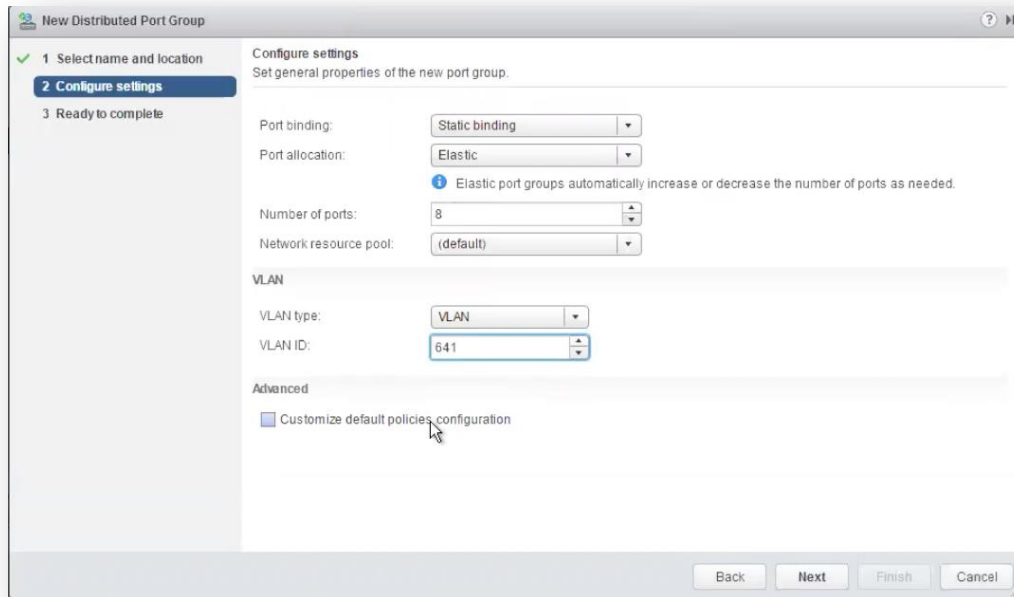

Figure 14 – Completed dialog for New Distributed Port Group when using a dvSwitch.
6. Configure the settings as shown in Figure 14. Be sure and use the VLAN ID for the VLAN you created previously.